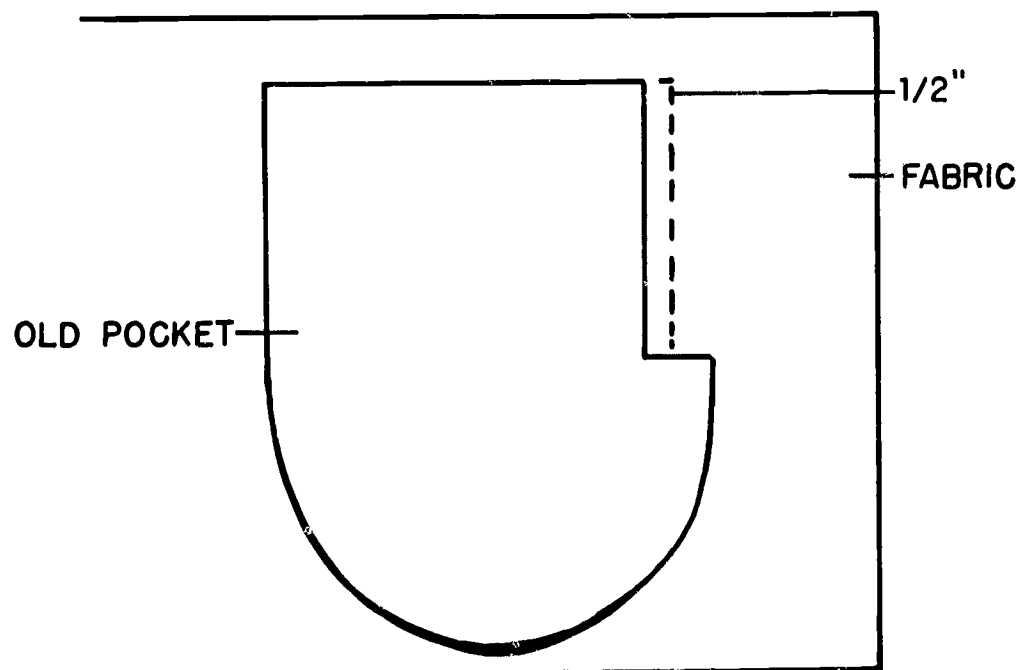

Figure 83.
5. Now cut the new pocket from a durable fabric using the old pocket as a pattern. Cut new pocket allowing $\frac{1}{2}$ inch extra on side of pocket that was cut from trousers (see Figure 83).